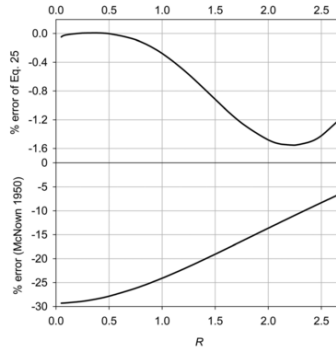

Fig. 9 The error of line packing estimation using Eq. (25) (top panel) and using the strain energy approximation (bottom panel)
Figure 9 shows the errors. The maximum error for Eq. (25) occurs at $R=2.25$ where the line pack is underestimated by 1.55%. The error is negligible for small R . Equation (25) is quite an improvement of the strain energy approximation. The latter significantly underestimates the line packing.